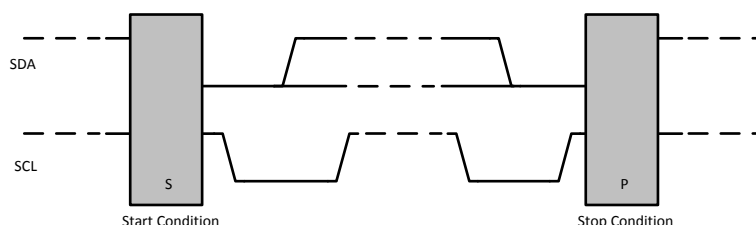

Figure 29. I²C Start and Stop Conditions
The LM36922H is configured via an I²C interface. START (S) and STOP (P) conditions classify the beginning and the end of the I²C session Figure 29. A START condition is defined as SDA transitioning from HIGH to LOW while SCL is HIGH. A STOP condition is defined as SDA transitioning from LOW to HIGH while SCL is HIGH. The I²C master always generates the START and STOP conditions. The I²C bus is considered busy after a START condition and free after a STOP condition. During the data transmission the I²C master can generate repeated START conditions. A START and a repeated START conditions are equivalent function-wise. The data on SDA must be stable during the HIGH period of the clock signal (SCL). In other words, the state of SDA can only be changed when SCL is LOW.